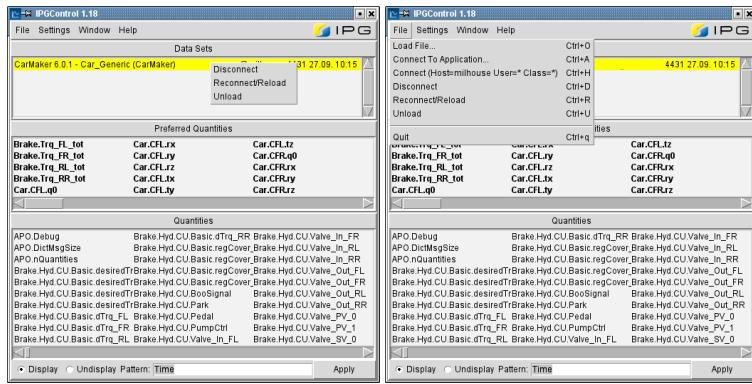

Figure 3.43: Left: Disconnect application
- Disconnect the last performed TestRun in the main window of IPGControl (Figure 3.43).